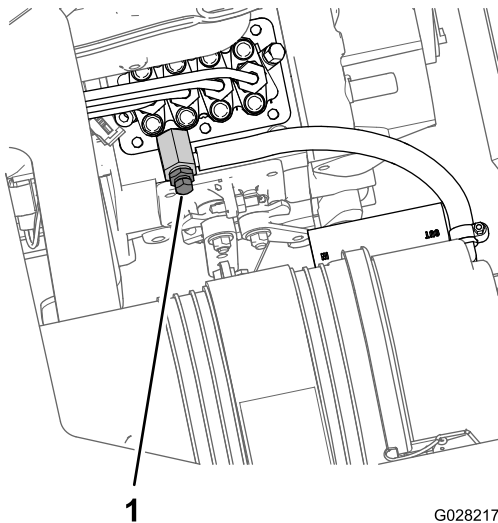

Figure 74
8. Align the drain pan under the fuel-injection pump portion of the engine (Figure 74).
9. Open the air-bleed screw at the fuel-injection pump (Figure 74).
11. Leave the key in the ON position until a solid stream of fuel flows out around the air-bleed screw (Figure 74).
12. Tighten the air-bleed screw (Figure 74) and turn the key to the OFF position.